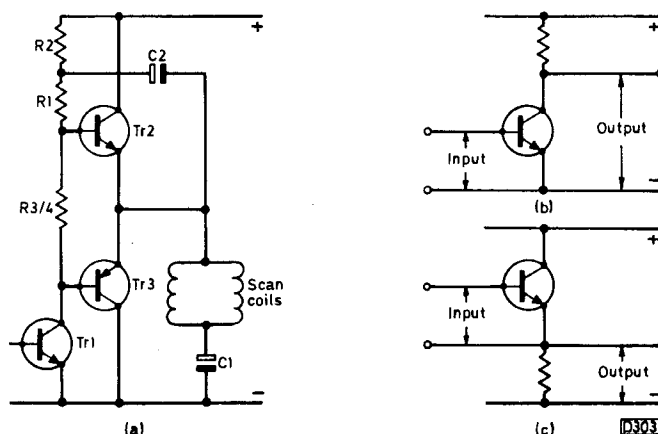

Fig. 1: Common-emitter or emitter-follower circuit?
I've found the series on *Transistors in TV Circuits* very interesting but would like to query the account of the bootstrap arrangement in the field driver/class B output stage given in the June issue, where it's stated that both stages are common-emitter circuits. One of the properties of a common-emitter circuit is that there is a  $180^\circ$  phase reversal between the input and output. But in this case – see Fig. 1(a) – the a.c. voltages at the inputs (bases) of the complementary output transistors TR2/3 are in phase with the output which is taken from the emitters, with the collectors grounded, i.e. the circuit is an emitter-follower.
*S. W. Amos comments:* R. Wallace is correct in saying that the input and output signals of a common-emitter amplifier are in antiphase – but only when the output is taken from the collector circuit as shown in Fig. 1(b). If the output is taken from the emitter circuit as in Fig. 1(a) and (c) the output signal is in phase with the input signal. Fig. 1(c) is probably a better way of showing a common-emitter circuit than the usual way – Fig. 1(b) – because it's so clear that the emitter terminal is common to the input and output circuits. Perhaps my explanation of the circuit's behaviour would have been clearer had I said "if TR2 and TR3 were emitter-followers their high input resistance would have made it difficult for TR1 to drive adequate current into them. In fact the voltage drop across R1 would probably have equalled the supply voltage before full output was obtained from the amplifier. But by making TR2 and TR3 into common-emitter stages their input resistance is reduced to a value at which TR1 can supply the input current with ease and the voltage developed across R1 and the input of TR2 and TR3 would be only a fraction of the supply voltage even when the amplifier is delivering maximum output."